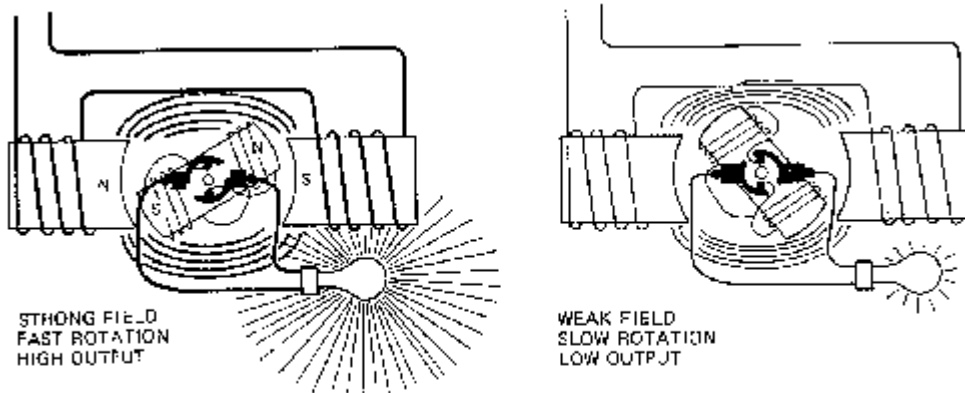

Figure 37
- Increasing the strength of the magnetic field and/or increasing the speed of the armature increases the generated voltage. (See Figure 37)
The speed of a mine hoist motor need to be controlled. The speed of the alternating current motor, like the direct current motor, depends on armature current. In a mine hoist AC motor, armature resistances are placed in the armature coil circuits. Te resistances can be bypassed by closing switches. (See Figure37)